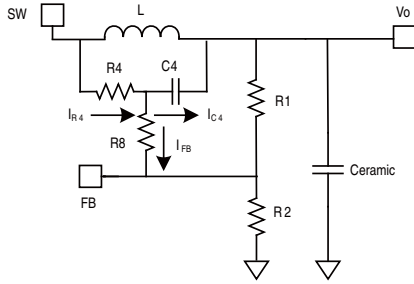

Figure 7: Simplified Circuit in PWM Mode with External Ramp Compensation
Figure 7 shows a simplified external ramp compensation (R4 and C4) for PWM mode. Chose R1, R2, R8, and C4 of the external ramp to meet the condition shown in Equation (3) and Equation (4):